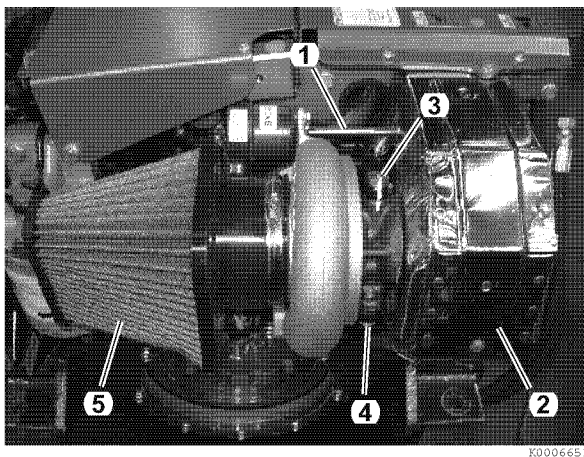

Figure 9-5
- Install new gaskets and connect lubrication return line (4, **Figure 9-5**) and supply line (3, **Figure 9-5**).
- Install insulating cover (2, **Figure 9-5**) and connect wastegate control rod (1, **Figure 9-5**).
- Install air filter (5, **Figure 9-5**).